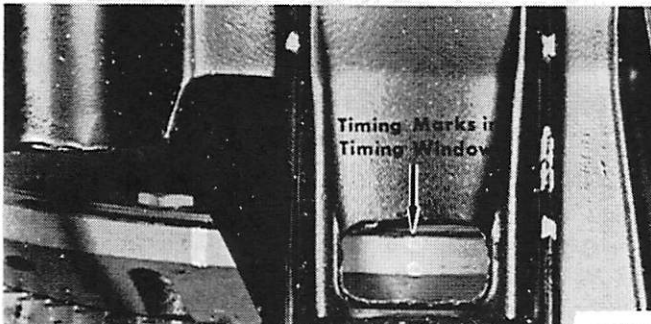

Figure 6. Primary Timing Marks Aligned
2. With engine running, align flywheel timing mark (two white dots) in timing window. (Figure 6)